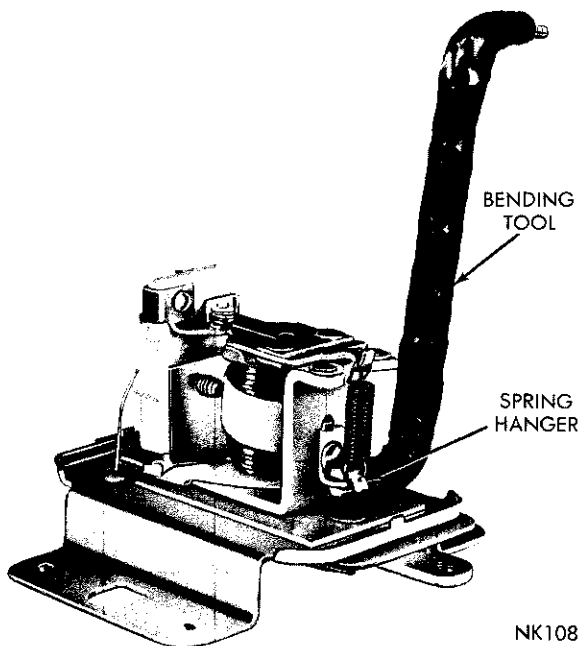

Fig. 13—Adjusting the Spring Tension
Step 1—Adjust the upper contact voltage setting as necessary by bending the regulator lower spring hanger **down** to **increase** voltage setting, **up** to **decrease** voltage setting. Use an insulated tool to bend the spring hanger (Fig. 13). The regulator must be installed, correctly connected, and retested after each adjustment of the lower spring hanger.